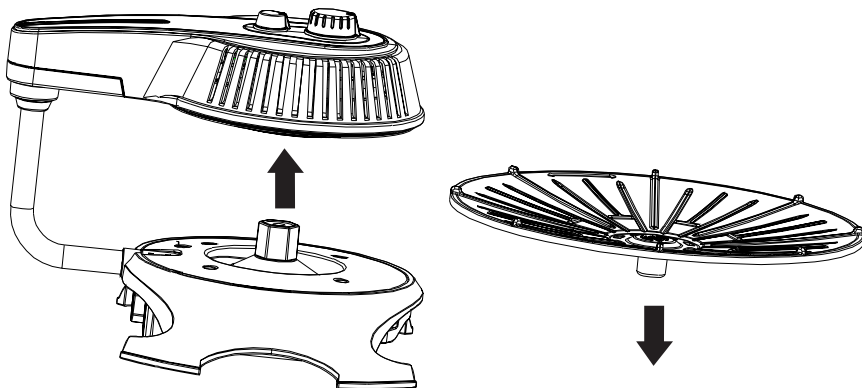

Fig 1
1. Place the machine on a steady surface. Place a clean grill pan on the base on the main body. If the distance between the heating element and the food needs to be reduced, please place the drive shaft on top of the base before placing the grill pan. (As shown in Fig 1).